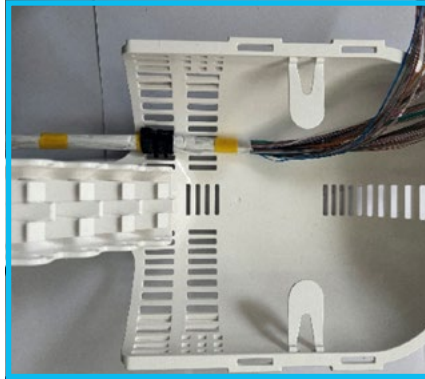

Figure 23
1. Lay the water blocking tape section of the cable into the slack basket **[figure 23]**.